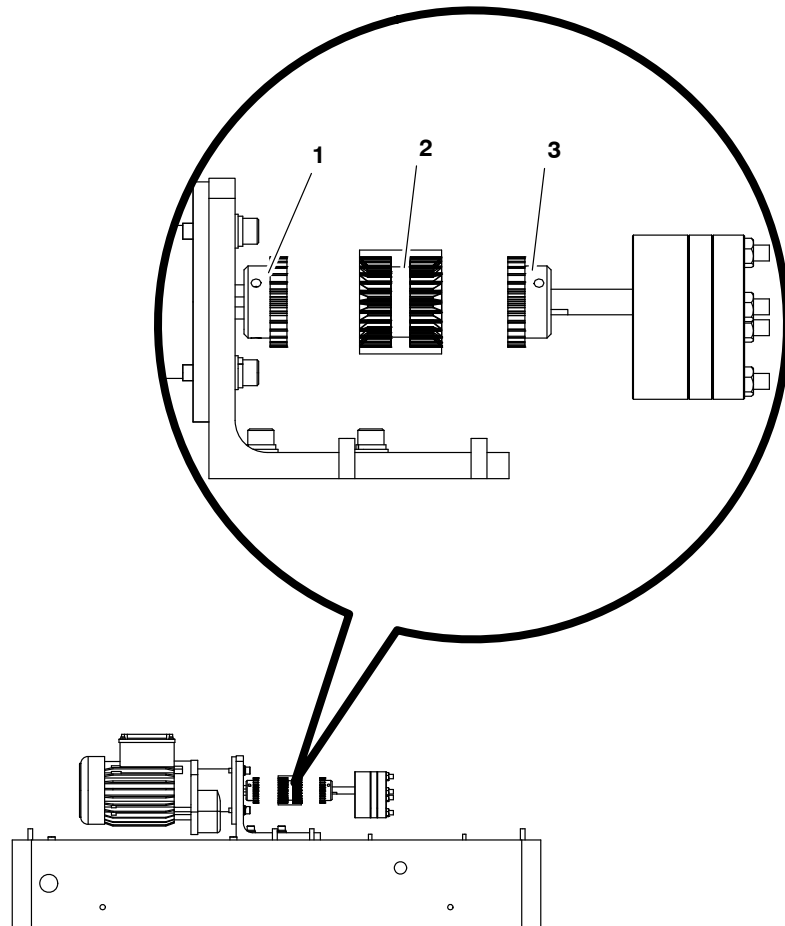

Figure 5-6 Coupling assembly components
6. See Figure 5-6. Loosen the screws that secure the motor to the base of the melter and then slide the motor back.
7. Slide the coupling sleeve (2) off of the coupling hubs (1 and 3), loosen the pump coupling hub set screws, and remove the pump coupling hub.